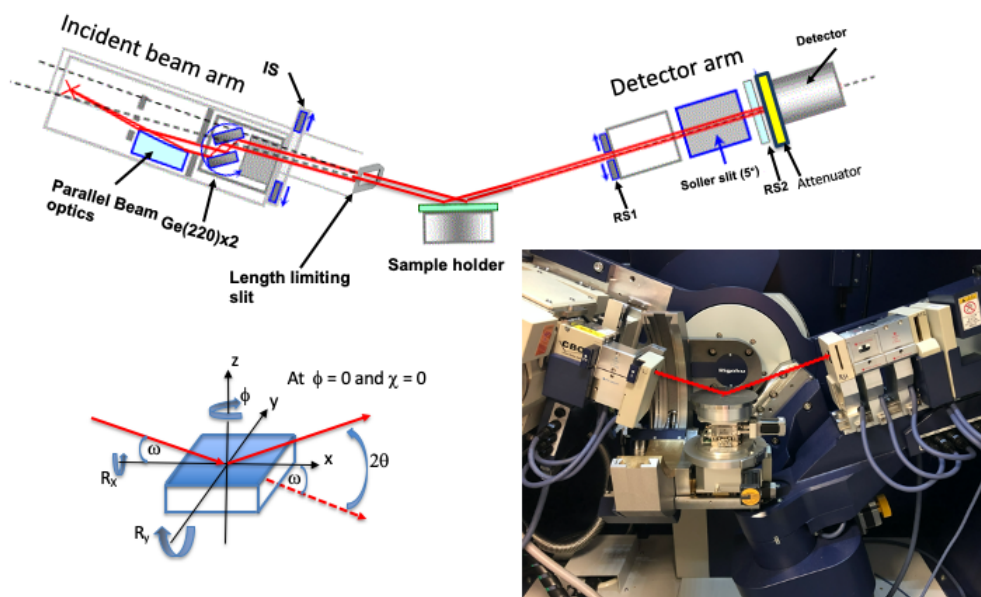

Fig. 1: SmartLab Diffractometer with Ge (220) 2-bounce monochromator option inserted to increase the resolution.
In order to perform ϕ scans of off-specular peaks, we first have to make sure that the c -axis of the substrate is along the ϕ axis. To perform this alignment, we move $2\theta/\omega$ to the Al_2O_3 (006) Bragg peak at $\text{Cu K}\alpha 1$. Do not forget to add in the 2θ correction to the value you get for 2θ from SingleCrystal. Due to the miscut of the surface and how the substrate was attached to the sample plate there will initially be some misalignment between the c -axis and the ϕ -axis. Referring to **Fig. 1**, we will use the R_x and R_y axes, which are orthogonal to each other and to the ϕ axis to achieve this alignment. Note that at $\phi = 0$ the R_y axis is aligned with the ω axis and when $\phi = 90^\circ$ the R_x axis is aligned with the ω axis (**Fig. 4**). Then we perform successive ω scans at different ϕ values and adjust R_x and R_y so that in the end the 006 Bragg peak position in an ω scan is invariant to a rotation in ϕ .